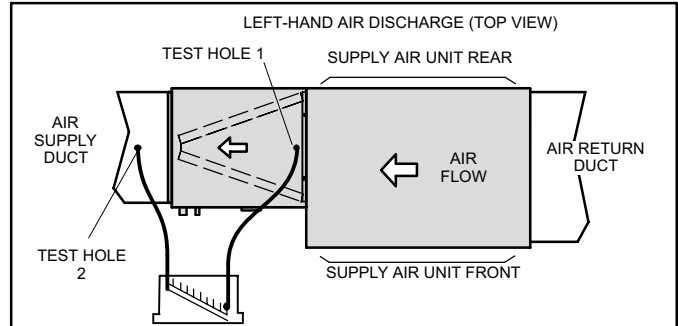

Figure 14. Static Pressure Test
A static pressure reading must be taken to see if the pressure drops are within the proper range. See figure 14 to see for an example to obtain an accurate reading.
To ensure accuracy, test the air on both sides of the coil (figure 14 exemplifies the two test hole locations).
-36-F	17-1/2 (444)	1200 (565)	.17 (42)	.21 (52)
-36-F	21 (533)	1200 (565)	.17 (42)	.21 (52)
-42-F	17-1/2 (444)	1400 (660)	.22 (55)	.28 (70)
-43-F	14-1/2 (394)	1400 (660)	.26 (65)	.31 (77)
-43-F	17-1/2 (444)	1400 (660)	.18 (45)	.21 (52)
-44/48-F	17-1/2 (444)	1400 (660)	.18 (45)	.23 (57)
-48-F	21 (533)	1600 (755)	.17 (42)	.21 (52)
-49-F	21 (533)	1600 (755)	.25 (62)	.29 (72)
-50/60-F	21 (533)	1600 (755)	.23 (57)	.29 (72)
-60/62-F	24-1/2 (622)	2000 (945)	.21 (52)	.27 (67)
1. Drill a 5/16" (8 mm) test hole in the coil case 1" from the furnace flange (figure 14, test hole 1).
2. Drill a 5/16" (8 mm) test hole into the air supply duct connected to the coil. (test hole 2 in figure 14).